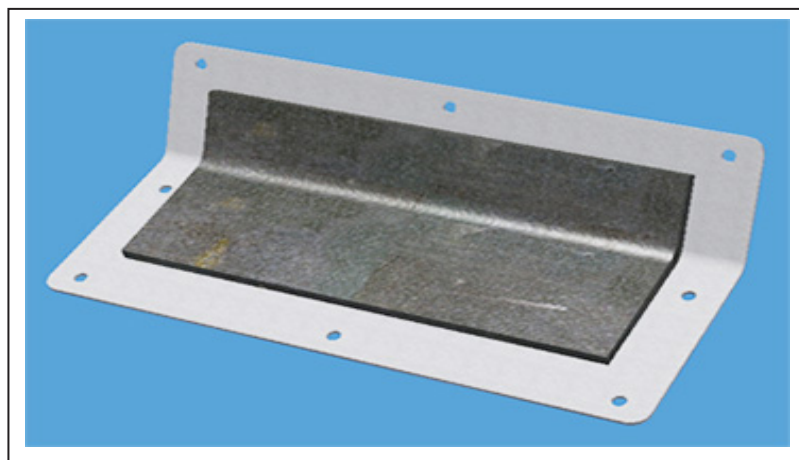

Figure 6 - N93775 Plate with N66254-75 Insulation
- 1.8. Place rectangular insulation N66254-75 on the cleaned N93775 plate. If needed, cut a portion of the insulation to avoid interference with the metal around the access holes cut in the structure. See Figure 6.
- 1.9. Remove the plastic skin from rectangular insulation N66254-75 and bond the insulation on to the clean surface of plate N93775. Press firmly for 5 seconds for good adherence. See Figure 6.